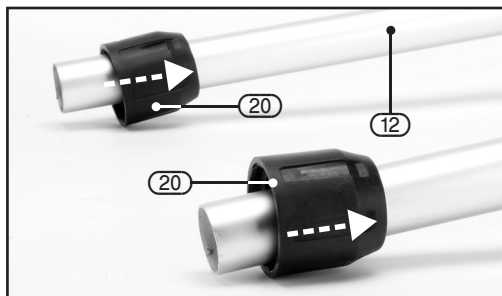

FIG.5
8.2 HANDLE ASSEMBLY (82583 only) – FIGS. 5 – 8
- Slide the 2 handle fixings (20) over the handle section (12).
- Slide the 2 shafts of the handle (12) over the handle mounting sections moulded into the spray bottle (5.1).
- Turn the 2 handle fixings (20) clockwise to secure the handle in place .